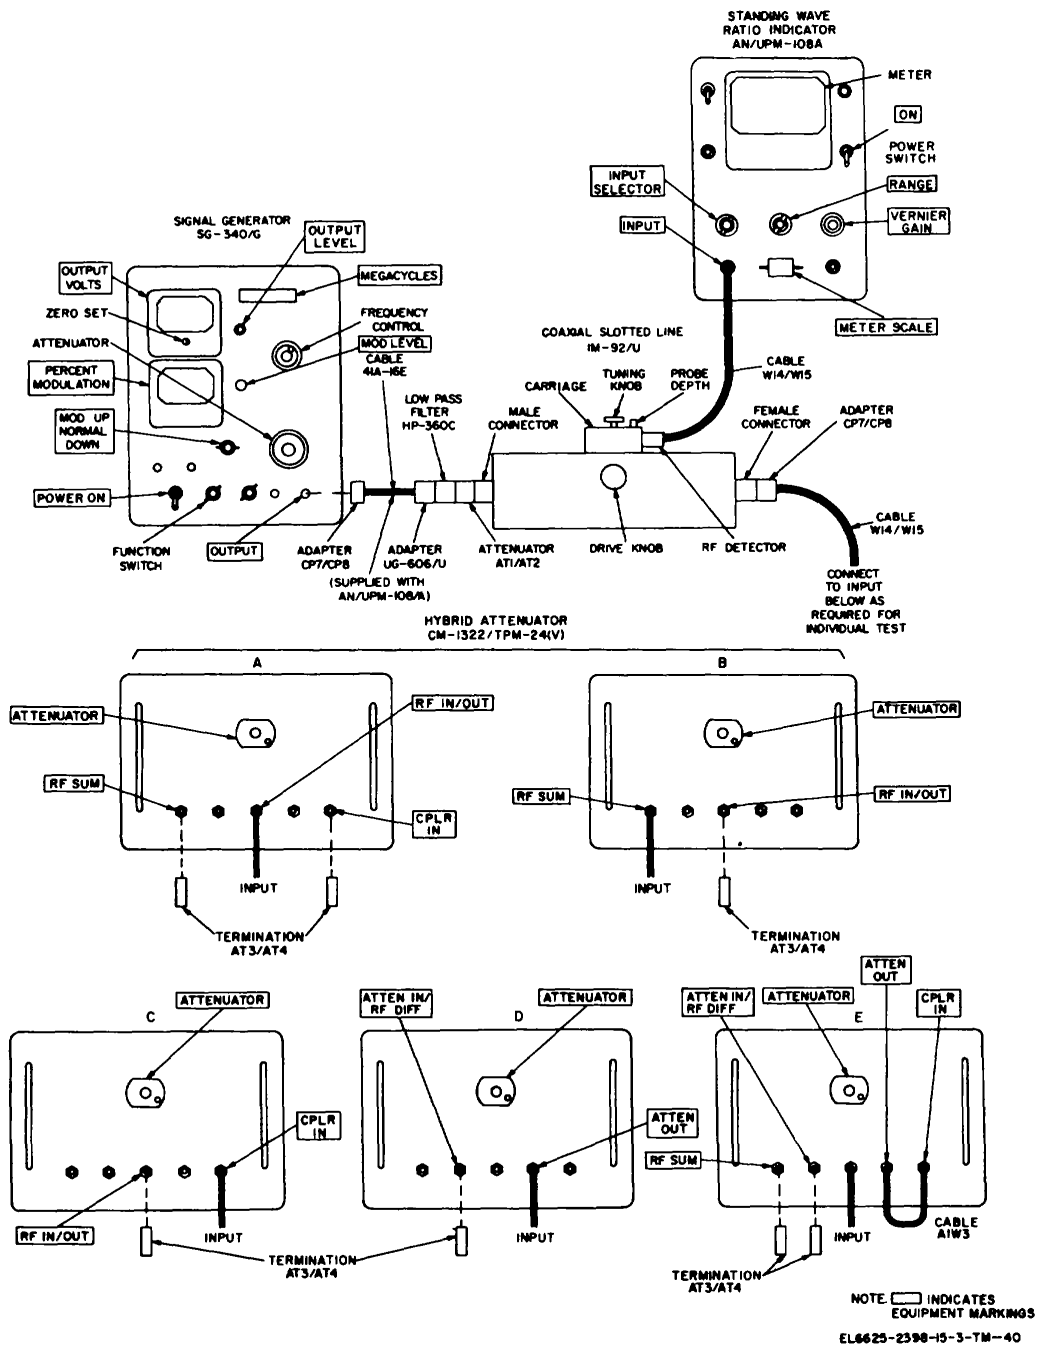

Figure 8-6. Hybrid Attenuator VSWR, test connections.
- (4) Low Pass Filter HP-360C.
- (5) Fixed Attenuator AT1/AT2 (1).
- (6) Terminations AT3/AT4 (2).
*b. Test Connections and Conditions.* The five hybrid attenuator test configurations in figure 8-6 to the test equipment in accordance with the directions supplied in the procedure below.